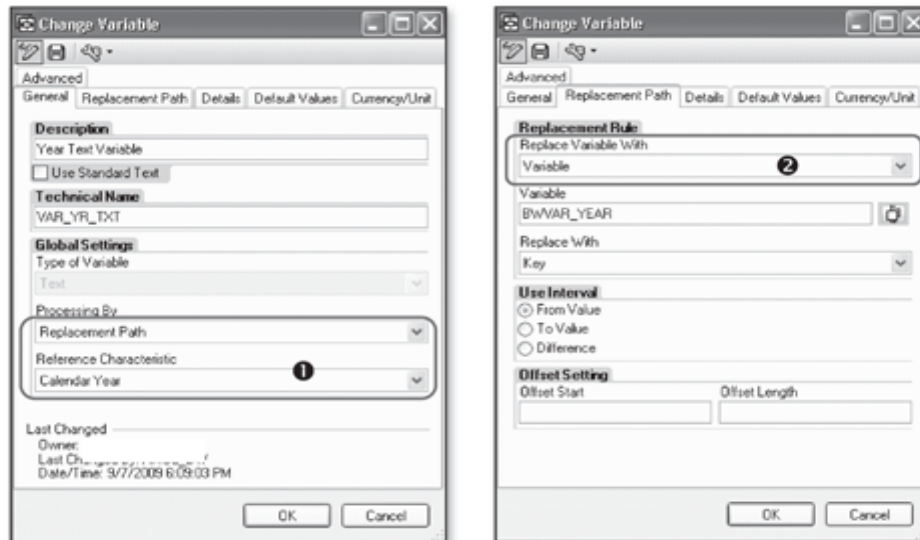

Figure 9.38 Define Text Variable
Let's take an example where you want the column description for key figure net value to be dynamically populated with the year for which the query is executed. To achieve this, you have to set the processing type of the text variable as replacement path and the reference characteristic as calendar year (see ❶ of Figure 9.38).
The details for this variable are maintained on the Replacement Path tab. Maintain the settings as shown in Figure 9.38. Note that in this example we're replacing the text variable with the value of calendar year entered in another characteristic variable (❷).